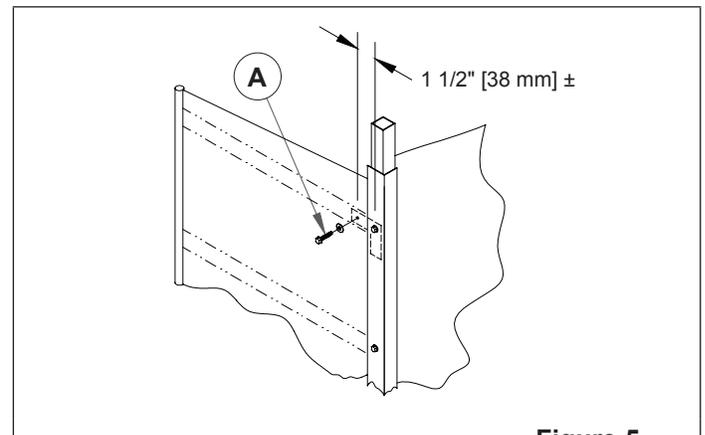

Figure 5
Critical: Now that all screws are fastened securely, add a second screw and washer (A) through the front of the side curtain, the top "stay" and into the "L" plate. Repeat for other side (Figure 5).